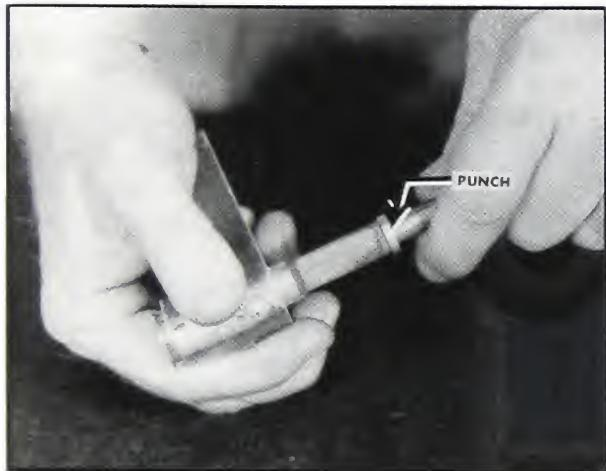

Fig. 5-257. Replace screen assembly
4. Coat the "O" ring on the screen assembly with Lubriplate and push the assembly into the stop housing. Use a punch inside the screen and press against the retainer end to prevent damage to the screen from pressing. Fig. 5-257.